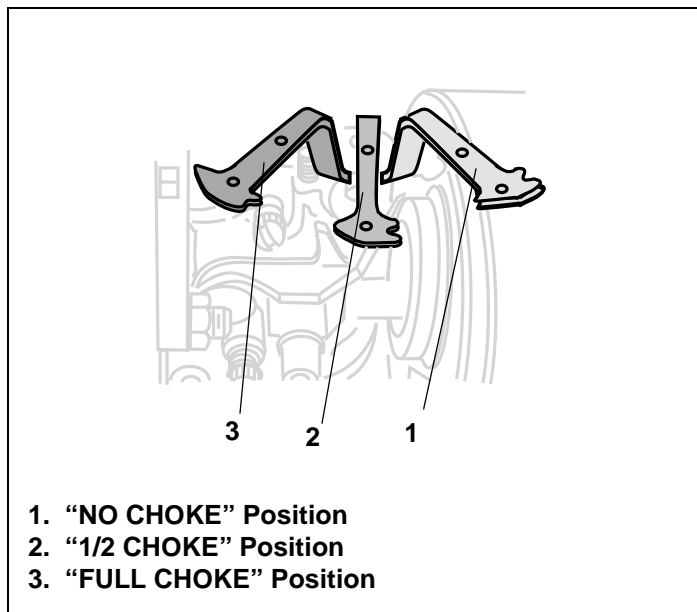

Figure 22. Horizontal Mount Choke Control Positions
*Some engines are equipped with a horizontal mounted choke control. See Figure 22.*